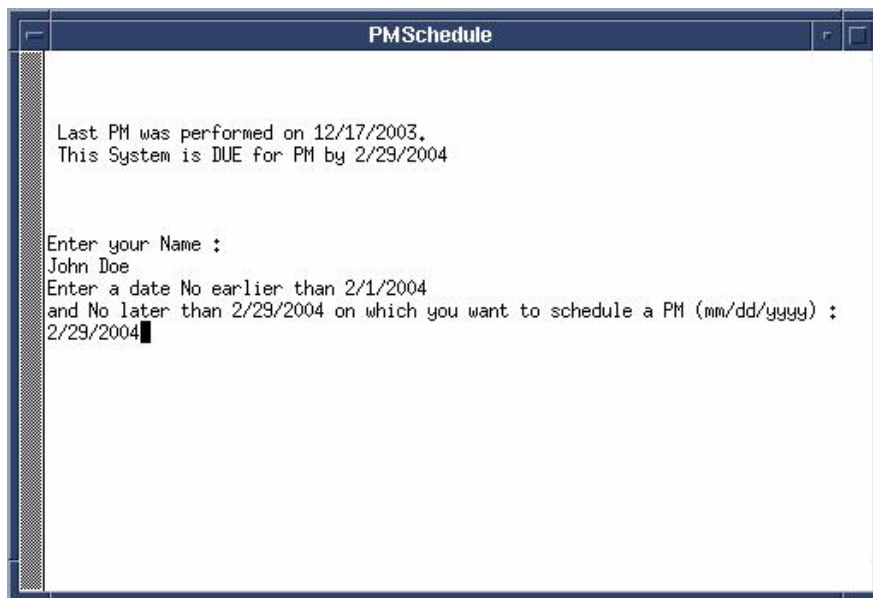

Figure 25
2. Enter the date the next PM will be performed. Insert the date within the specified time limit provided by the tool **Figure 25**
3. Press the enter key **Figure 25**